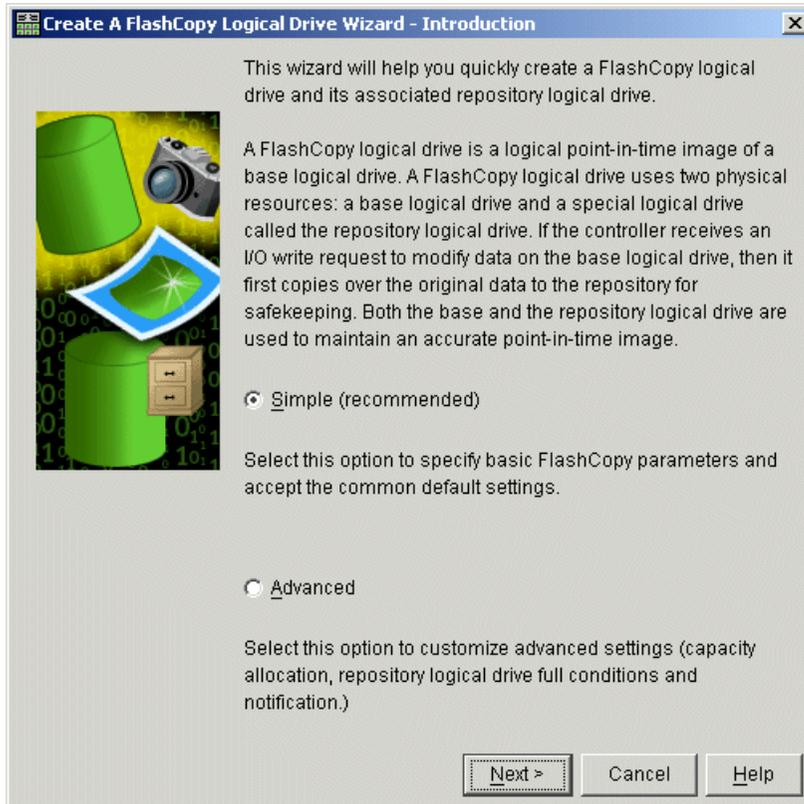

Figure B-7 Create A FlashCopy Logical Drive Wizard - Introduction window
2. The Create A FlashCopy Logical Drive Wizard - Introduction window is displayed (see Figure B-7):